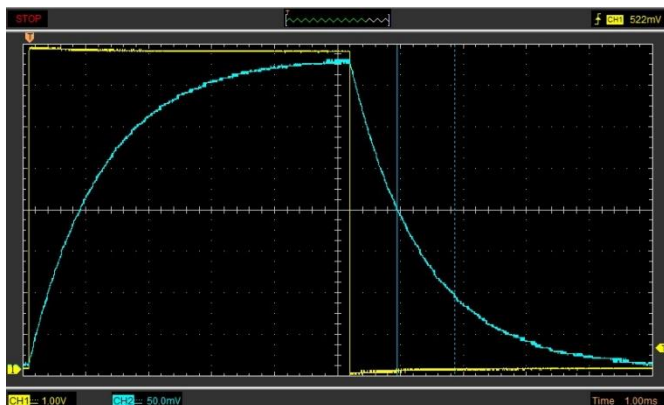

Fig. 4: Oscilloscope traces of current through a coil (blue curve) after switching DC voltage on and off.
Fig. 4 shows an example oscilloscope trace for charging and discharging of a coil after a DC voltage has been switched on across it and then switched off again. The yellow curve (CH1) shows how the voltage changes with time across the full ohmic resistance (see equation (4)), while the blue curve (CH2) shows how the current changes in the coil.